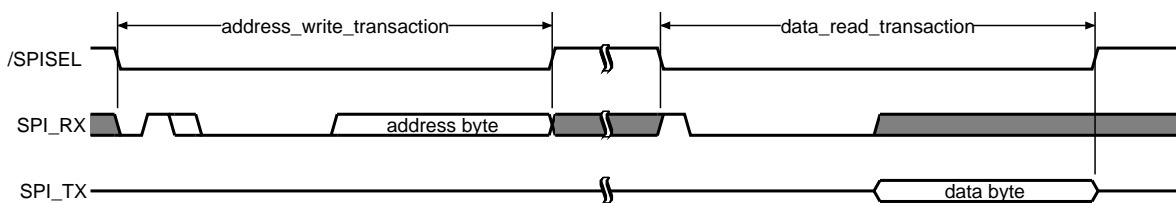

Figure 2.17: Register read access (transaction sequence)
1. A register read access is a sequence of one SPI write address transactions and one SPI read data transaction as shown in Figure 2.17. With the first transaction the SPI master specifies the register address (control byte is '01X0CCCC'). Afterwards, XHFC-1SU transfers the register value to the SPI master (control byte is '1000 0000').
Figures 2.17 to 2.19 show $/\text{SPISEL} = '1'$ between the transactions. This splits the sequence into an address write transaction and one or several data read transactions. The split time has an arbitrary duration. It can also decrease to zero, which means that $/\text{SPISEL}$ remains '0' for several transactions.